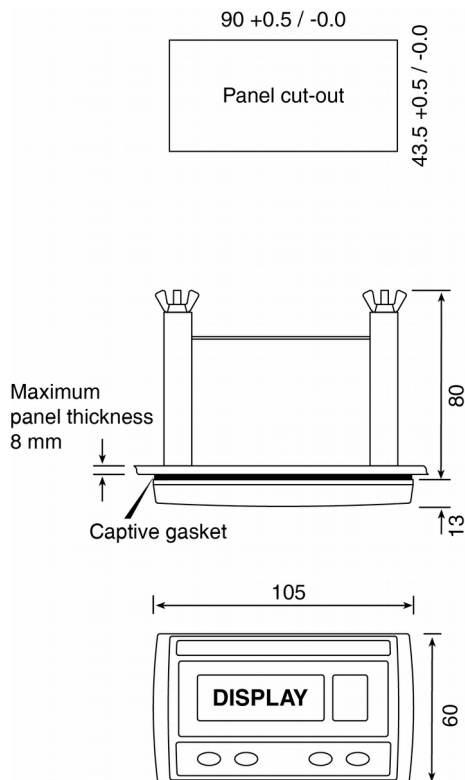

Fig 5 Dimensions
Fig 5 show the overall dimensions of the indicators together with the recommended panel enclosure cut-out dimensions.
- Cut the aperture specified in Fig 5 in the panel enclosure. Ensure that the edges of aperture are de-burred.